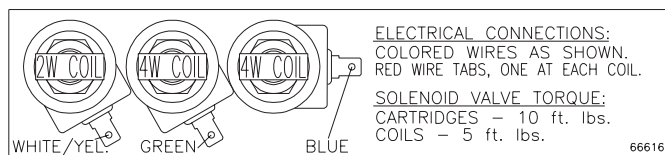

Figure 22
6. Apply dielectric grease (P.N. 56099) (furnished in the hydraulics box) into the opening of each wire terminal before connecting to the coil terminals as shown on the label on the inside of each cover and in Figures 22, 23, and 24 on the next page.
Wire the solenoids according to the diagrams below (these diagrams are also found inside the solenoid covers). (See Figures 22, 23 and 24.)